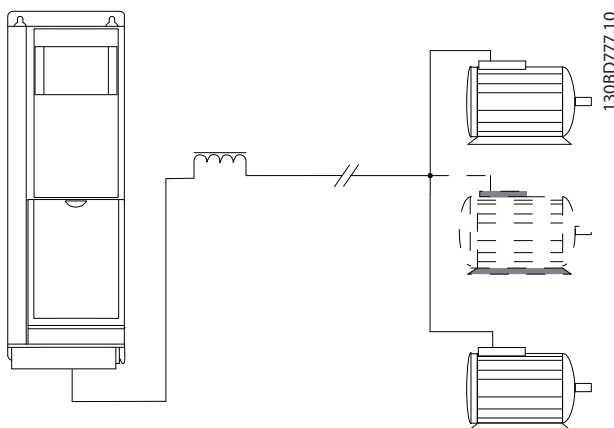
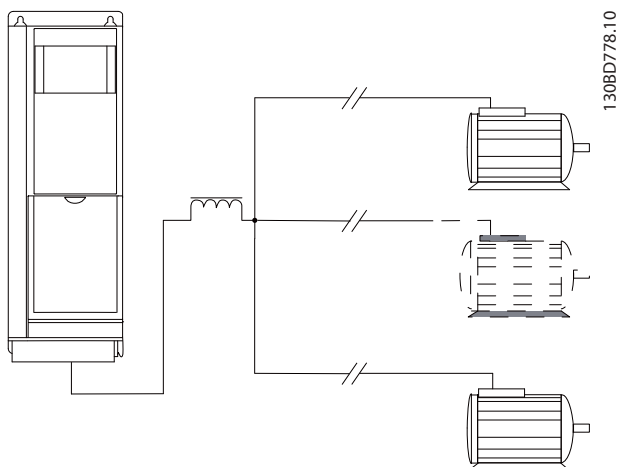

Figure 3.14 Parallel Cables with Load
Figure 3.15 LC Filter for Long Parallel Cables
- The total motor cable length specified in Table 3.4, is valid as long as the parallel cables are kept short (less than 10 m (33 ft) each), see Figure 3.14 and Figure 3.15.
- Consider voltage drop across the motor cable, see Figure 3.15.
- For long parallel cables, use an LC filter, see Figure 3.15.